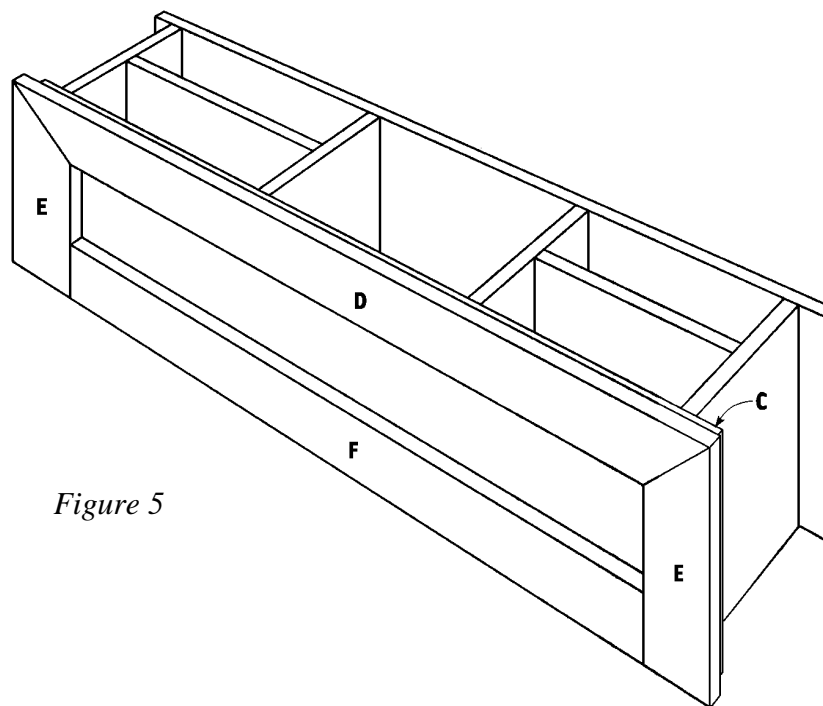

Figure 5
5. Place the Front Trim (D) over the edge of the Top/Bottom (C), as shown in *Figure 5*. The Front Trim (D) should overhang the Top/Bottom (C) by 1 inch on the front and both sides. Apply glue to the meeting surfaces, and screw through the Front Trim (D) into the Top/Bottom (C) using 1-5/8" wood screws spaced every 5 inches.
6. Place one Side Trim (E) over the ends of the Top/Bottom (C), with the miter toward the Front Trim (D), as shown in *Figure 5*. The trims should overhang the sides by 1 inch. Apply glue to the meeting surfaces, and screw through the Side Trim (E) into the Top/Bottom (C) using three 1-1/4" wood screws.
7. Repeat Step 6 to attach the remaining Side Trim (E) to the opposite end of the Top/Bottom (C).
8. Cut one Back Trim (F) from 1 x 4 pine measuring 35 inches.
9. Fit the Back Trim (F) between the two Side Trims (E), flush with the back edge of the Top/Bottom (C), as shown in *Figure 5*. This piece does not overhang. Apply glue to the meeting surfaces, and screw through the Back Trim (F) into the Top/Bottom (C), using 1-5/8" wood screws spaced every 5 inches.